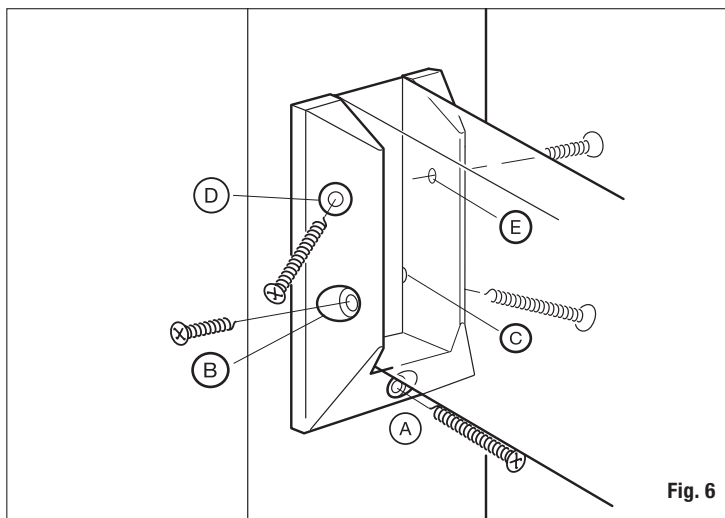

Fig. 6
- Set your fence rail in place to ensure correct bracket placement. Insert and fasten the 1" fence rail bracket screws through holes B and E to secure the rail and bracket together (fig. 6). Repeat steps for top rail and brackets.
- Insert and fasten the 2" rail bracket screws through holes D and C to finish securing your fence rail system to the post (fig. 6). Repeat steps on next fence post.